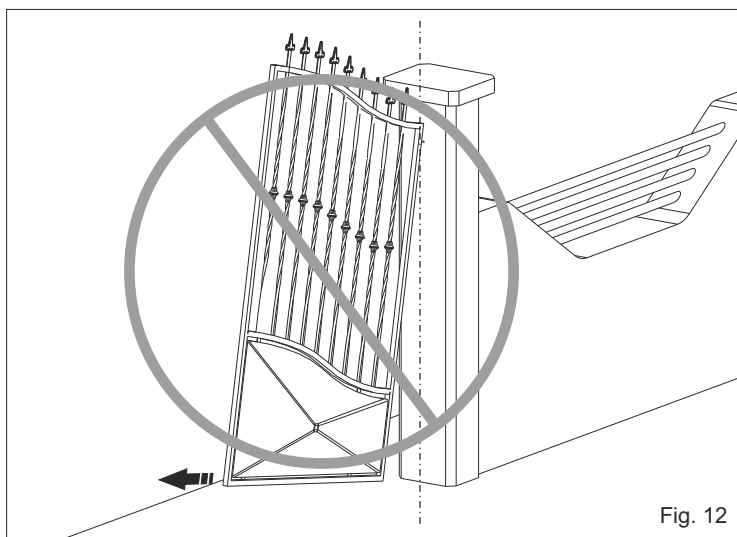
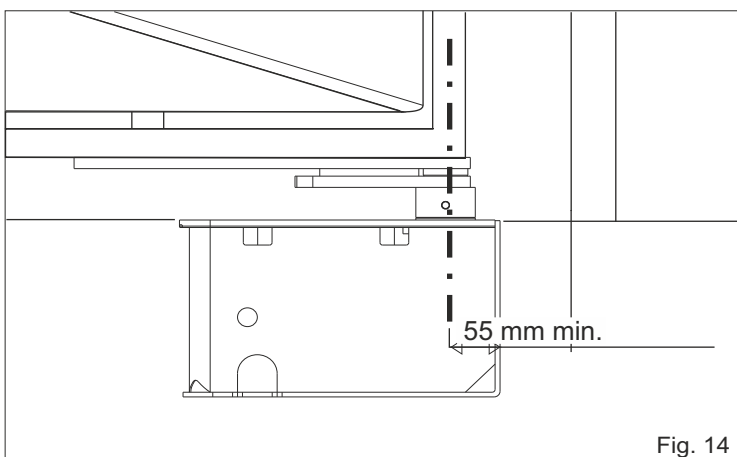

Fig. 12
Fig. 14
**3.3.** Be careful not to place the leaf outside the axis (Fig. 12 and 13), but make sure the shaft corresponds to the hinge rotation axis remembering that the minimum distance from the pillar is 55 mm (Fig. 14).